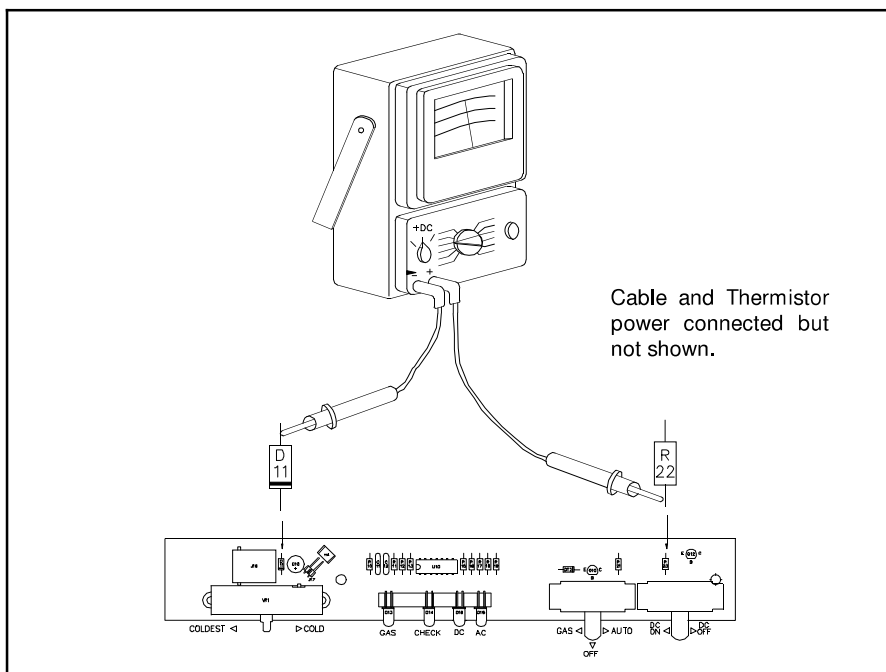

Figure 11.30 Control Voltage Check
17. Set the volt-ohm-meter to measure + 12 volts DC and check for 10 volts at R22 and D11 (R23 and D11 for 2-Way models) as shown in Figure 11.30.